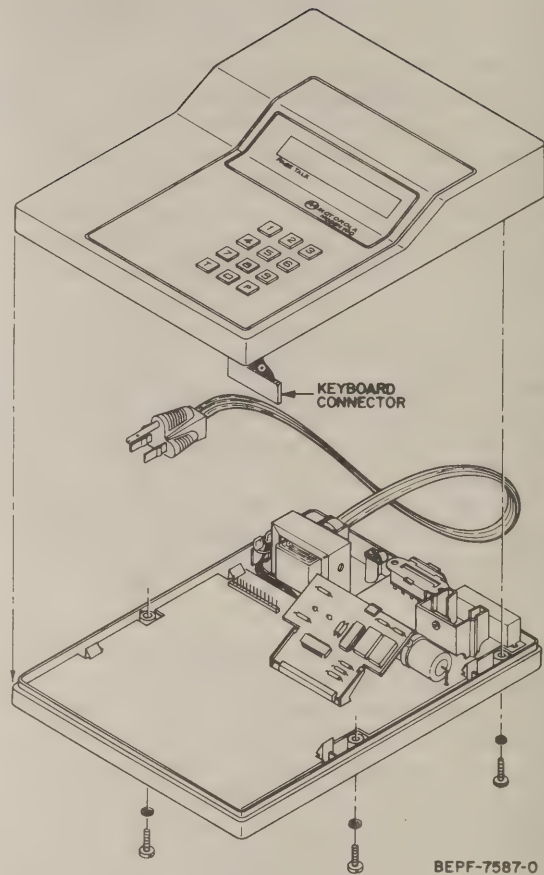

Figure 20. Housing Top Removal
(3) Carefully remove the top of the housing, and disconnect the keyboard cable from the main circuit board. Refer to Figure 20.